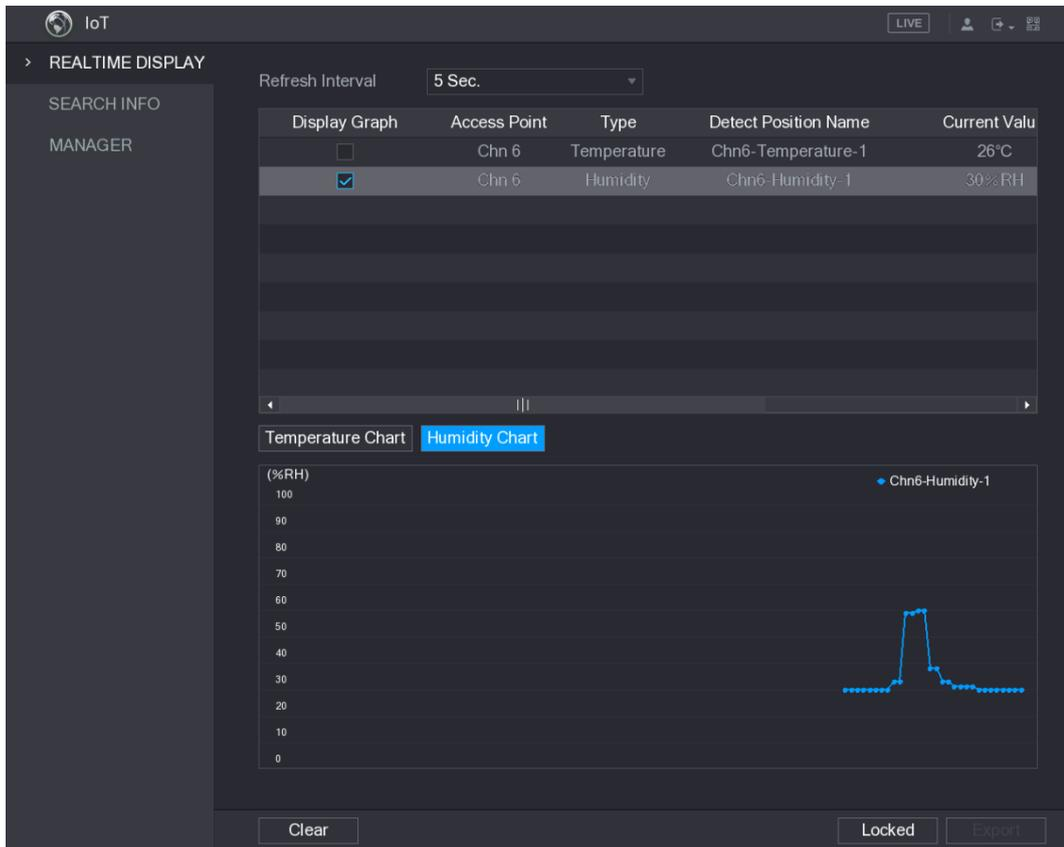

Figure 5-170
**Step 2** On the **Realtime Display** interface, click the **Humidity** tab. See Figure 5-170.